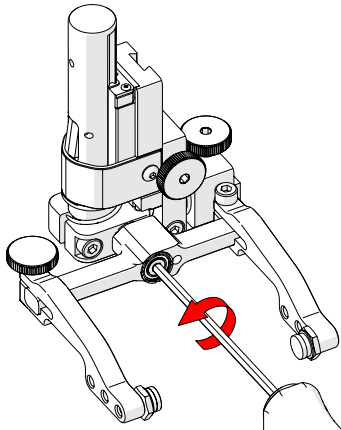

Fig. 57 - Unscrew yoke pivot screw
2. Using the supplied 3 mm hex driver (Fig. 15), unscrew the yoke pivot screw and remove the yoke (Fig. 57).